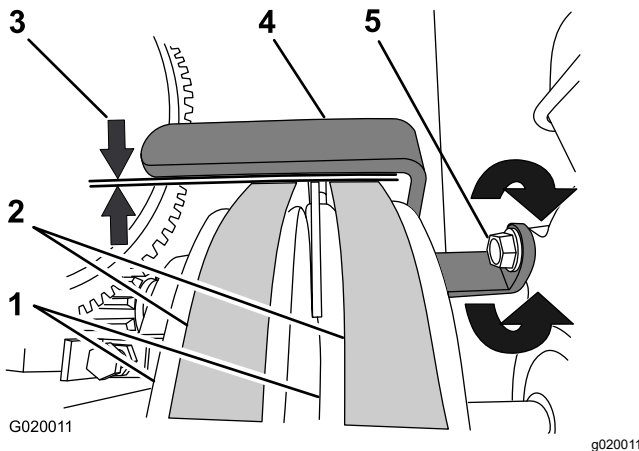

Figure 66
6. Check that the air gap between the belt guide and the belts is 2.5 to 4.0 mm (3/32 to 5/32 inch); refer to Figure 66.
- A. Loosen the bolt that secures the belt guide to the engine (Figure 66).
- B. Rotate the belt guide up or down until there is an air gap of 2.5 to 4.0 mm (3/32 to 5/32 inch) between the guide and each belt (Figure 66).
- C. Tighten the bolt that secures the belt guide to the engine (Figure 66).